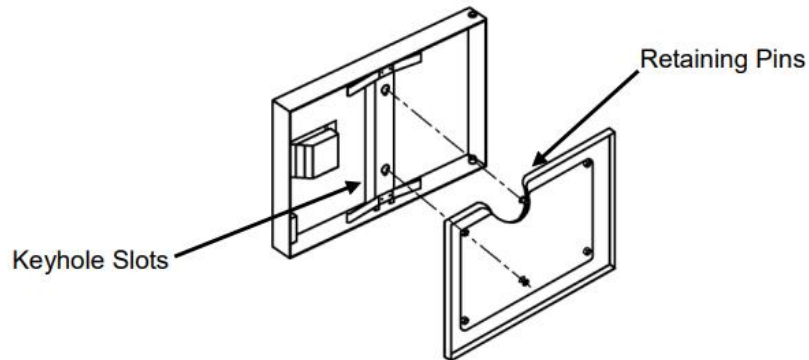

Figure 6-1
- a. Remove the door gasket assembly (see Figure 6-1) by holding the gasket assembly at the sides and lifting up and away from the door.